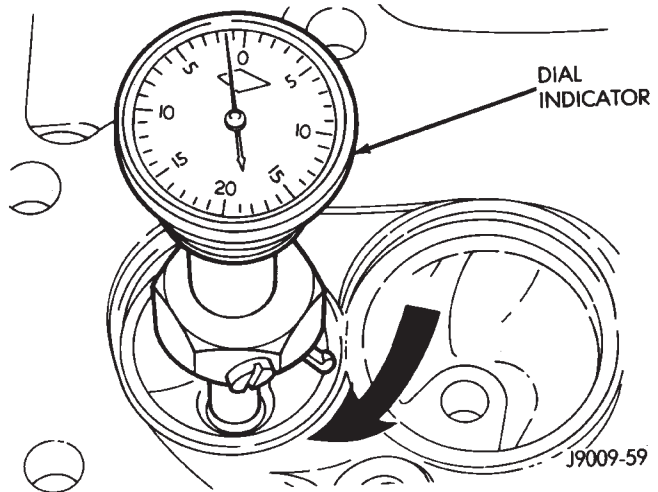

Fig. 64 Measurement of Valve Seat Runout
(1) Install a pilot of the correct size in the valve guide bore. Reface the valve seat to the specified angle with a good dressing stone. Remove only enough metal to provide a smooth finish.
(2) Use tapered stones to obtain the specified seat width when required.
(3) Control valve seat runout to a maximum of 0.0635 mm (0.0025 in.) (Fig. 64).